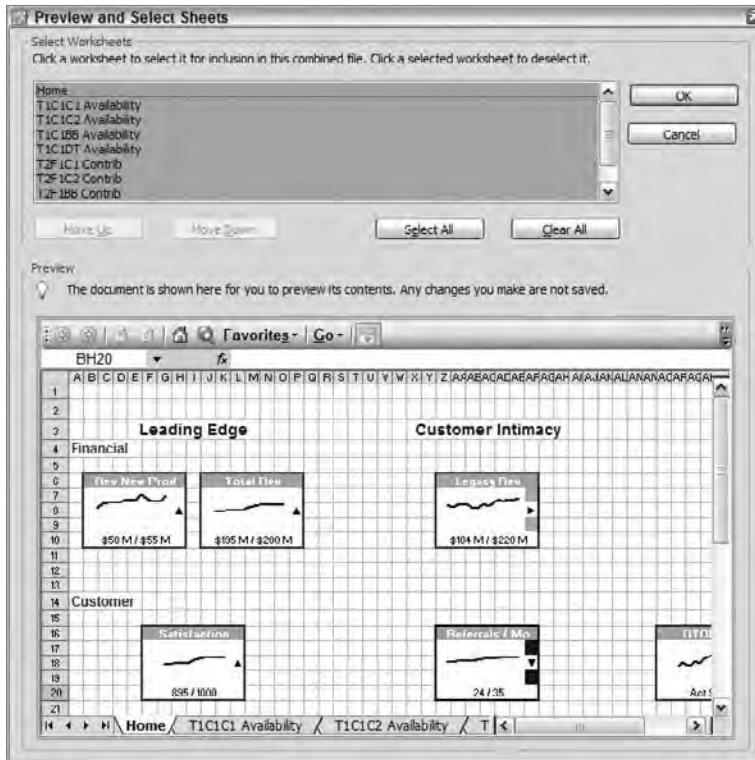

Figure 29.10: Select the worksheets you want printed using the Preview and Select Sheets dialog box.
9. In the Preview and Select Sheets dialog box, shown in Figure 29.10, select the sheets you want in the PDF. Organize the sheets in the order you want them to appear. You can preview a worksheet by selecting its tab in the preview window. Choose OK.